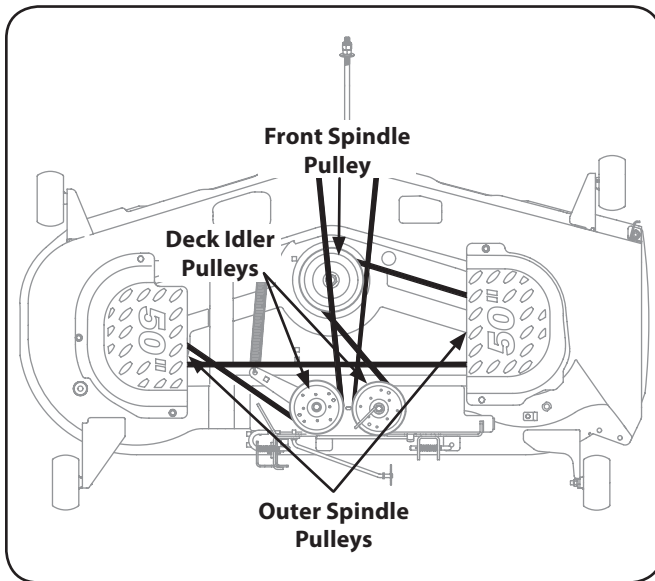

Figure 7-8
- To place the new belt begin by routing the belt around the two outer spindle pulleys, then around the front spindle pulley as shown in Fig. 7-8.
- Then route the belt around the two deck idler pulleys as shown in Fig. 7-8.